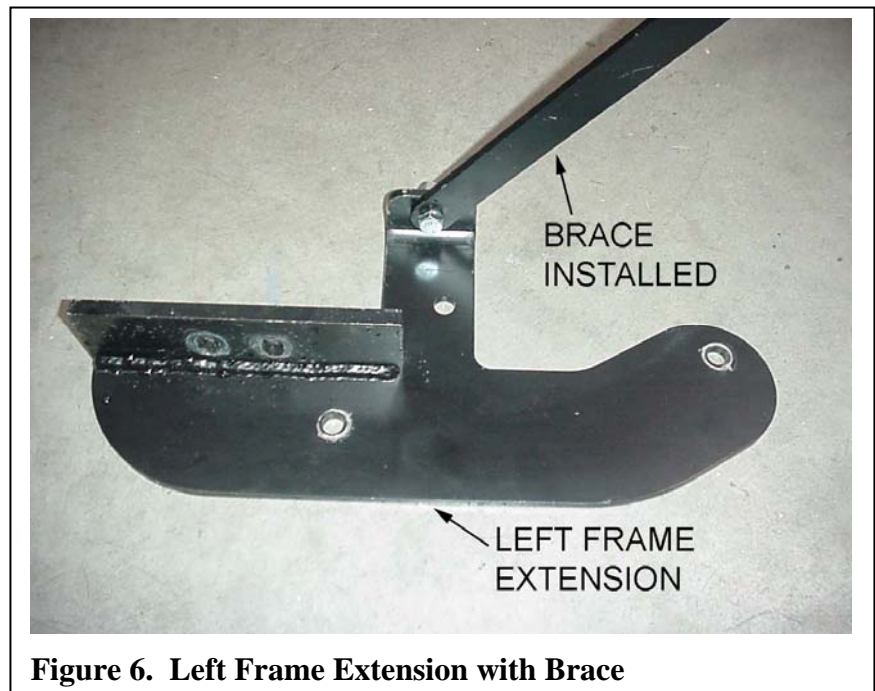

Figure 6. Left Frame Extension with Brace
4. If installing a winch, insert a 3/8 x 1 1/2" bolt through one end of a brace and the upper hole of a frame extension. The brace should be below the frame extension tab with the bolt installed from the bottom. Secure finger tight with a 3/8 lock washer and nut on top of the frame extension tab. **Figure 6**. Repeat this step for the opposite side.